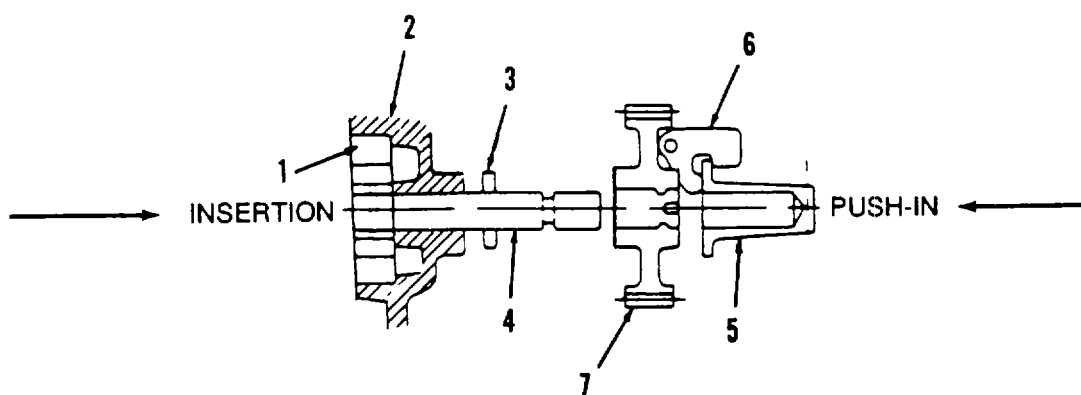

Figure 6-7. Lube Oil Pump Installation.
- (1) Lube Oil Pump.
(a) (Refer to Figure 6-7). Insert lubricating oil pump assembly (1) from the outside of the crankcase cover (2). Coat the rotor with oil before installing the cover.